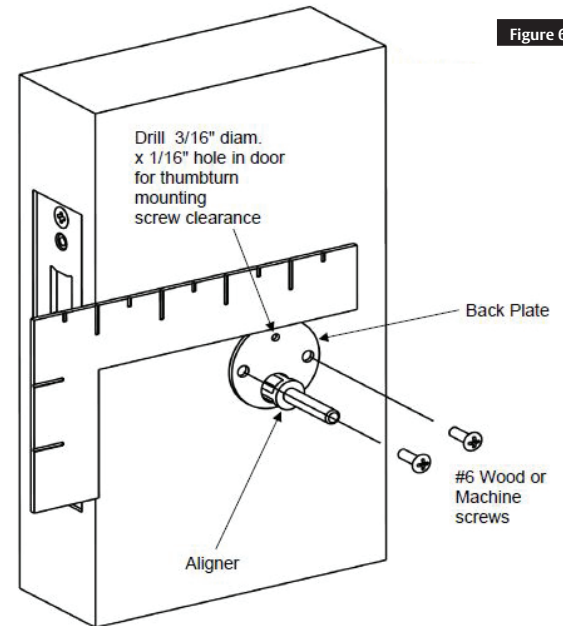

Figure 6
2. Place back plate over the alignment tool and use a carpenter's square to orient. (See Figure 6)
7. Install back plate using two #6 mounting screws. (See Figure 6)